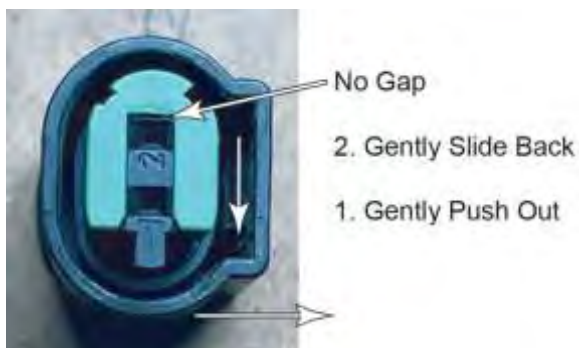

Figure 137
- (5) Slide the second contact retainer back to its locked position (Figure 137). The locked position can be verified by ensuring there is no gap between the lock and the face of the connector and that the lock clip is in the lock position (Figure 138).